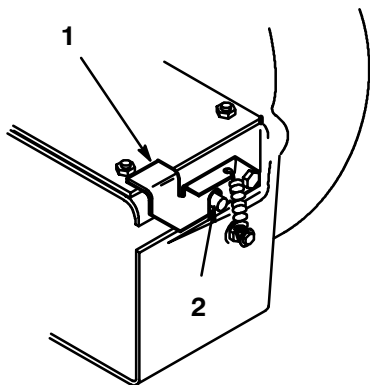

Figure 12
4. With the belt installed, swing the blower toward the mower until the blower latch locks over the pin at the back of the mower (Fig. 12).